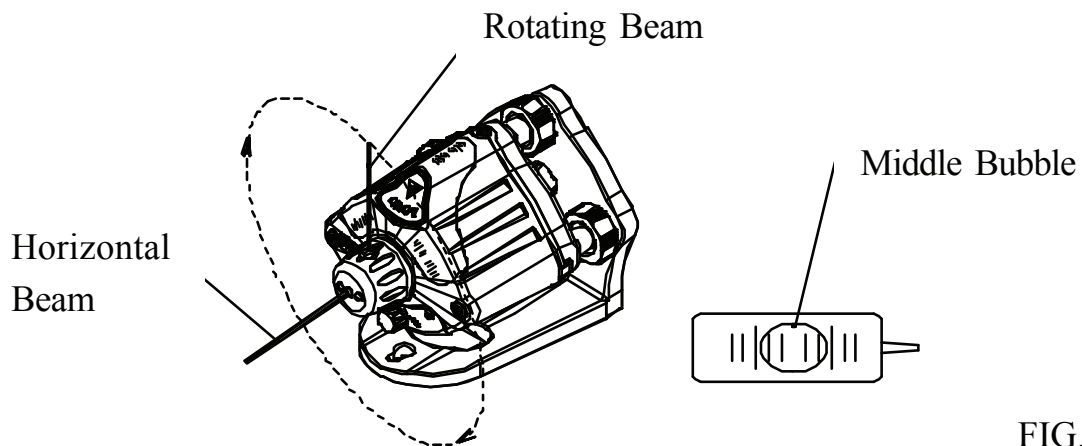

FIG. 5
- b) As shown in FIG. 5, place the instrument on the flat table or tripod (connected with the tripod through the 5/8"-11 screw thread);